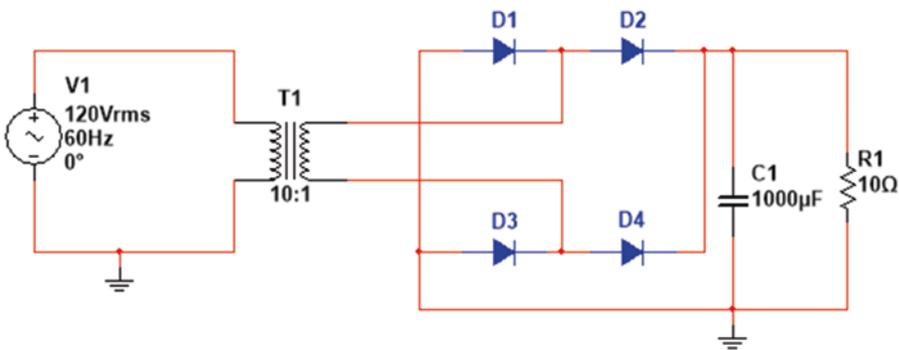

Fig. 2.347 Schematic for Exercise 6
6. Use LTspice to simulate the circuit shown in Fig. 2.347.